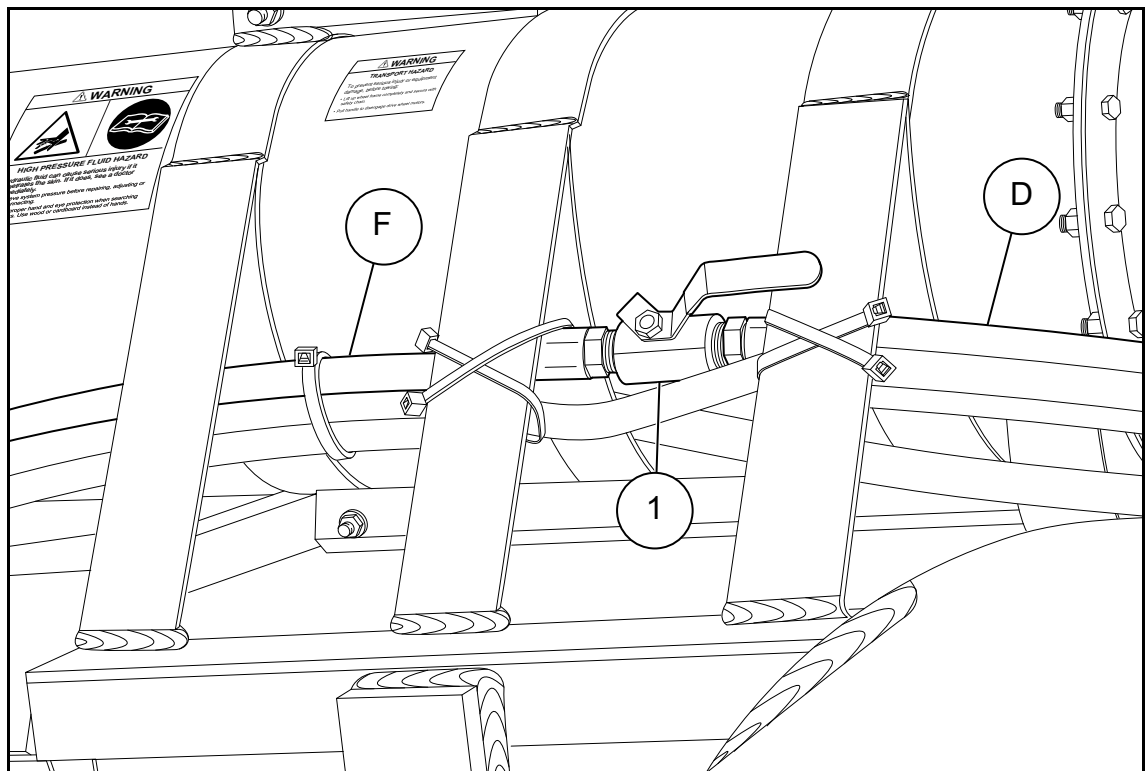

Figure 3.21 Ball Valve
8. Attach ball valve (1) to hose D and connect hose F. Secure ball valve to the wheel move base with zip ties (see Figure 3.21).